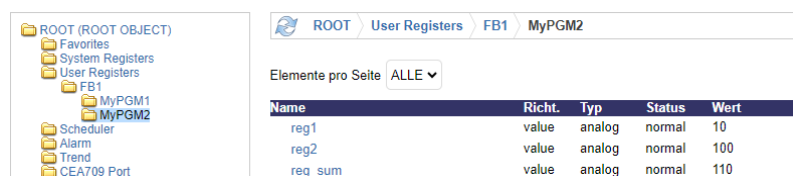

Figure 55: Resulting data points on the device.
25. The device will reboot and come up with the new program. Open the Web UI on the device and verify the add function as shown in Figure 55. Note, that two folders have been generated for the two 61131 program instances (MyPGM1, MyPGM2).